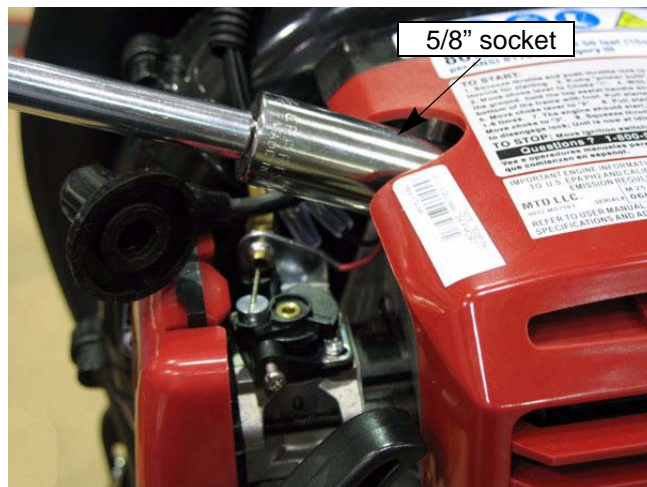

Figure 2.2
- 1b. Remove the spark plug with a 5/8" spark plug socket. See Figure 2.2.